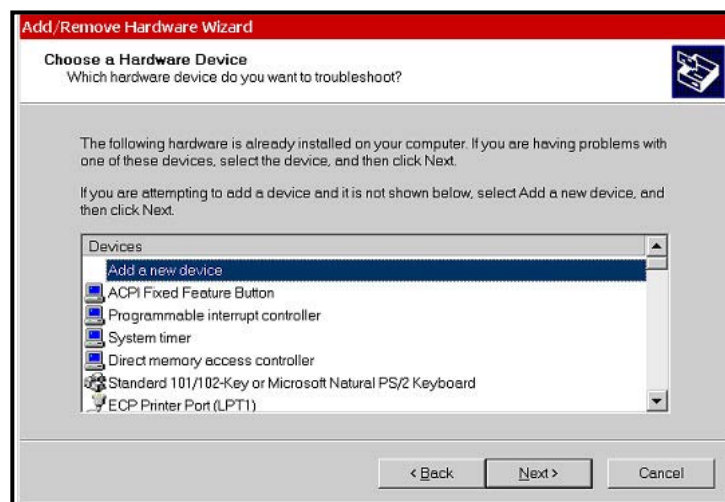

Figure 49: Choose a Hardware Device Screen
5. When the search finishes, you will see the dialog screen as in *Figure 49*. Choose “Add a new device,” and click Next.